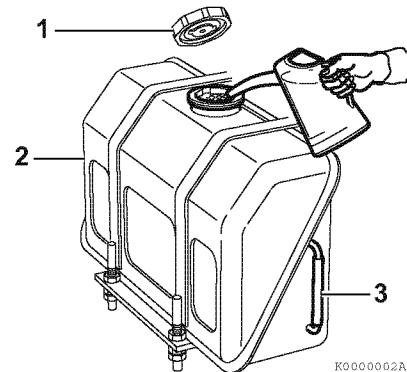

Figure 4-3
1. Clean the area around the fuel cap (**Figure 4-3, (1)**).
2. Remove the fuel cap (**Figure 4-3, (1)**) from the fuel tank (**Figure 4-3, (2)**).
3. Observe the fuel level sight gauge (**Figure 4-3, (3)**) and stop fueling when gauge shows fuel tank is full. Never overfill the fuel tank.